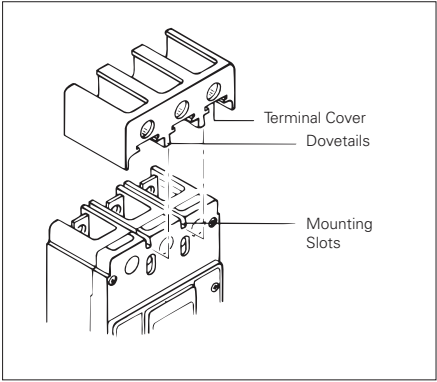

Figure 2-3 Terminal Cover Installation
- 2-8. When step-type terminals (Cat. No. TA400K, TA401K, TA402K, and T400K) are used, terminal shields (supplied with the terminals) must be installed on the circuit breaker (Figure 2-3). Warning label supplied with the kit must be attached to the circuit breaker front cover.